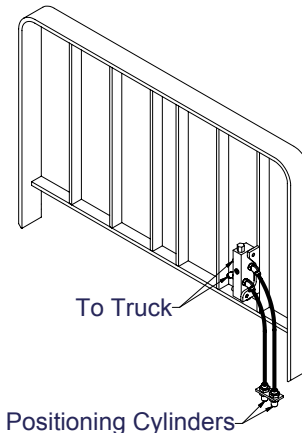

Figure 3-3, Fork Positioning Connection
1. Install the lines from the truck's hydraulics to the fork positioning valve on the attachment. (Figure 3-3)